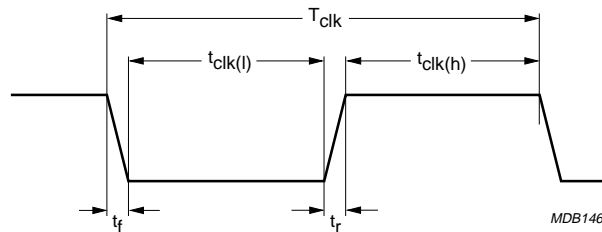

Fig 6. Sys_clk characteristics
- sys_clk: system clock for data processing part; frequency can be between 27 and 35 MHz; see Figure 6 and Table 3